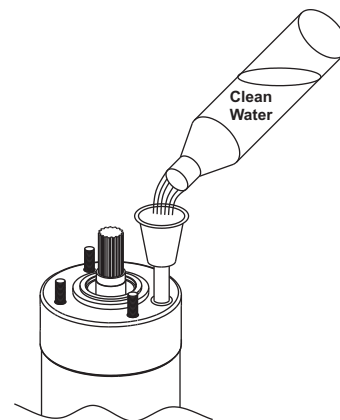

Fig. 2 Location of water filling hole in 6" Water Filled motor
1. Place the motor in an upright position as shown in fig. 2.
4. Carefully fill clean water into the motor, see fig. 2, until the water runs back out of the filling hole.